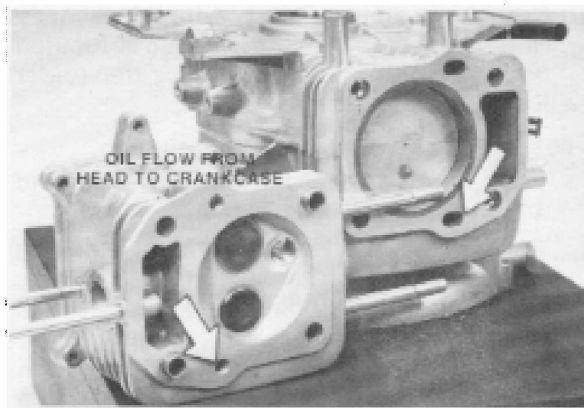

Figure 4-15
6. Lubricating oil flows back to the crankcase through the passages shown in Fig. 4-15.